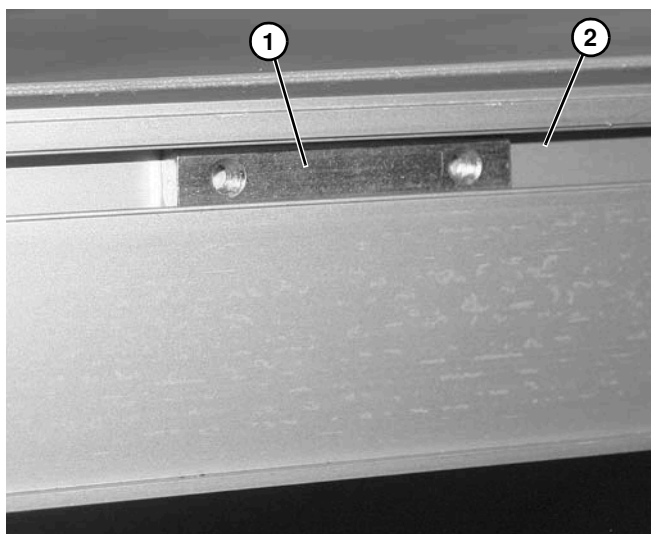

Figure 20
2. Insert tee bar (**Figure 20, item 1**) into conveyor side slot (**Figure 20, item 2**).